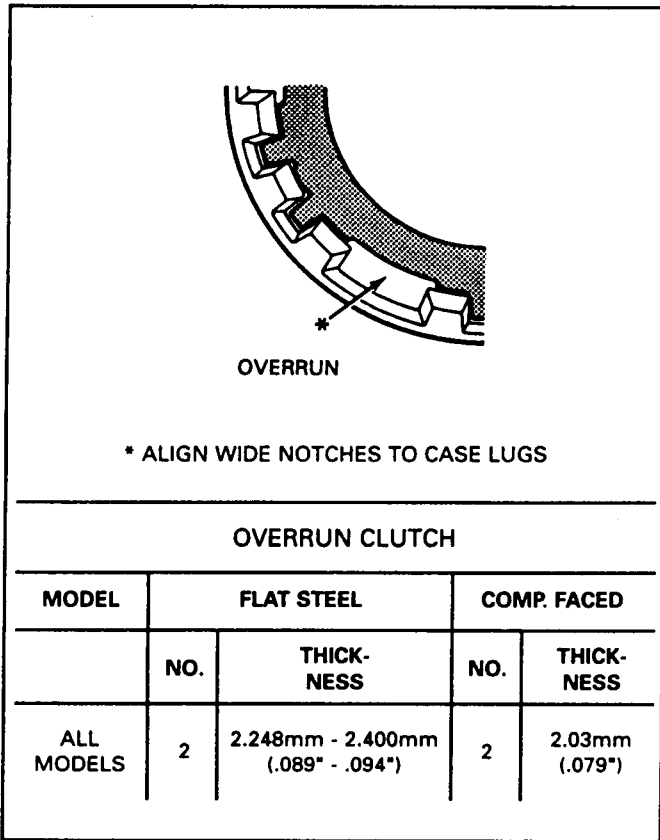

Figure 123
4. The overrun clutch steel plates must be indexed into the input housing, and requires ONLY two lined and two steels (See Figure 123).